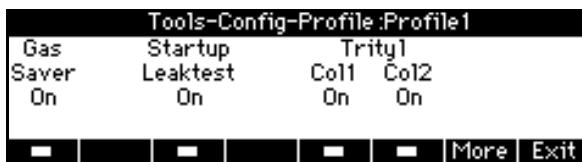

Figure F-17 Tools—Config—Profil: Alarm Menu
7. Select **More** to display the second profile configuration screen shown in Figure F-17.
The factory default settings for the trityl monitor alarms are shown in Figure F-17.